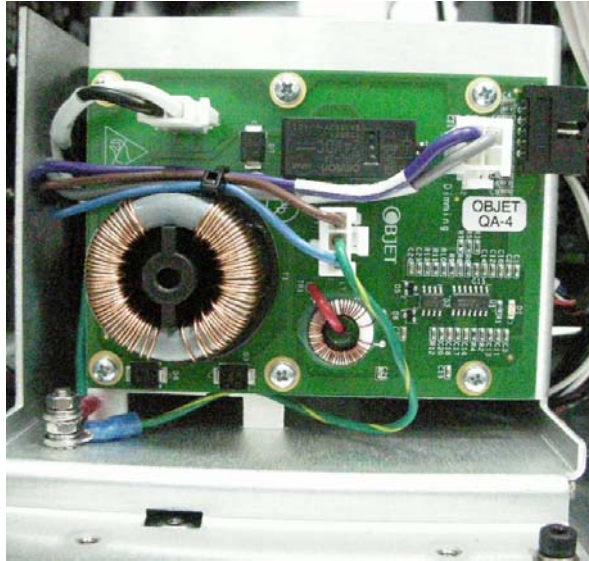

Figure 135 Correct Wire Routing Around Solenoid.
24. Make sure the cables at the front of the power supply are routed around the solenoid as shown in Figure 135, so they do not touch the power supply cover.
27. Make sure the cables at the front of the power supply are routed around the solenoid as shown in Figure 135, so they do not touch the power supply cover.